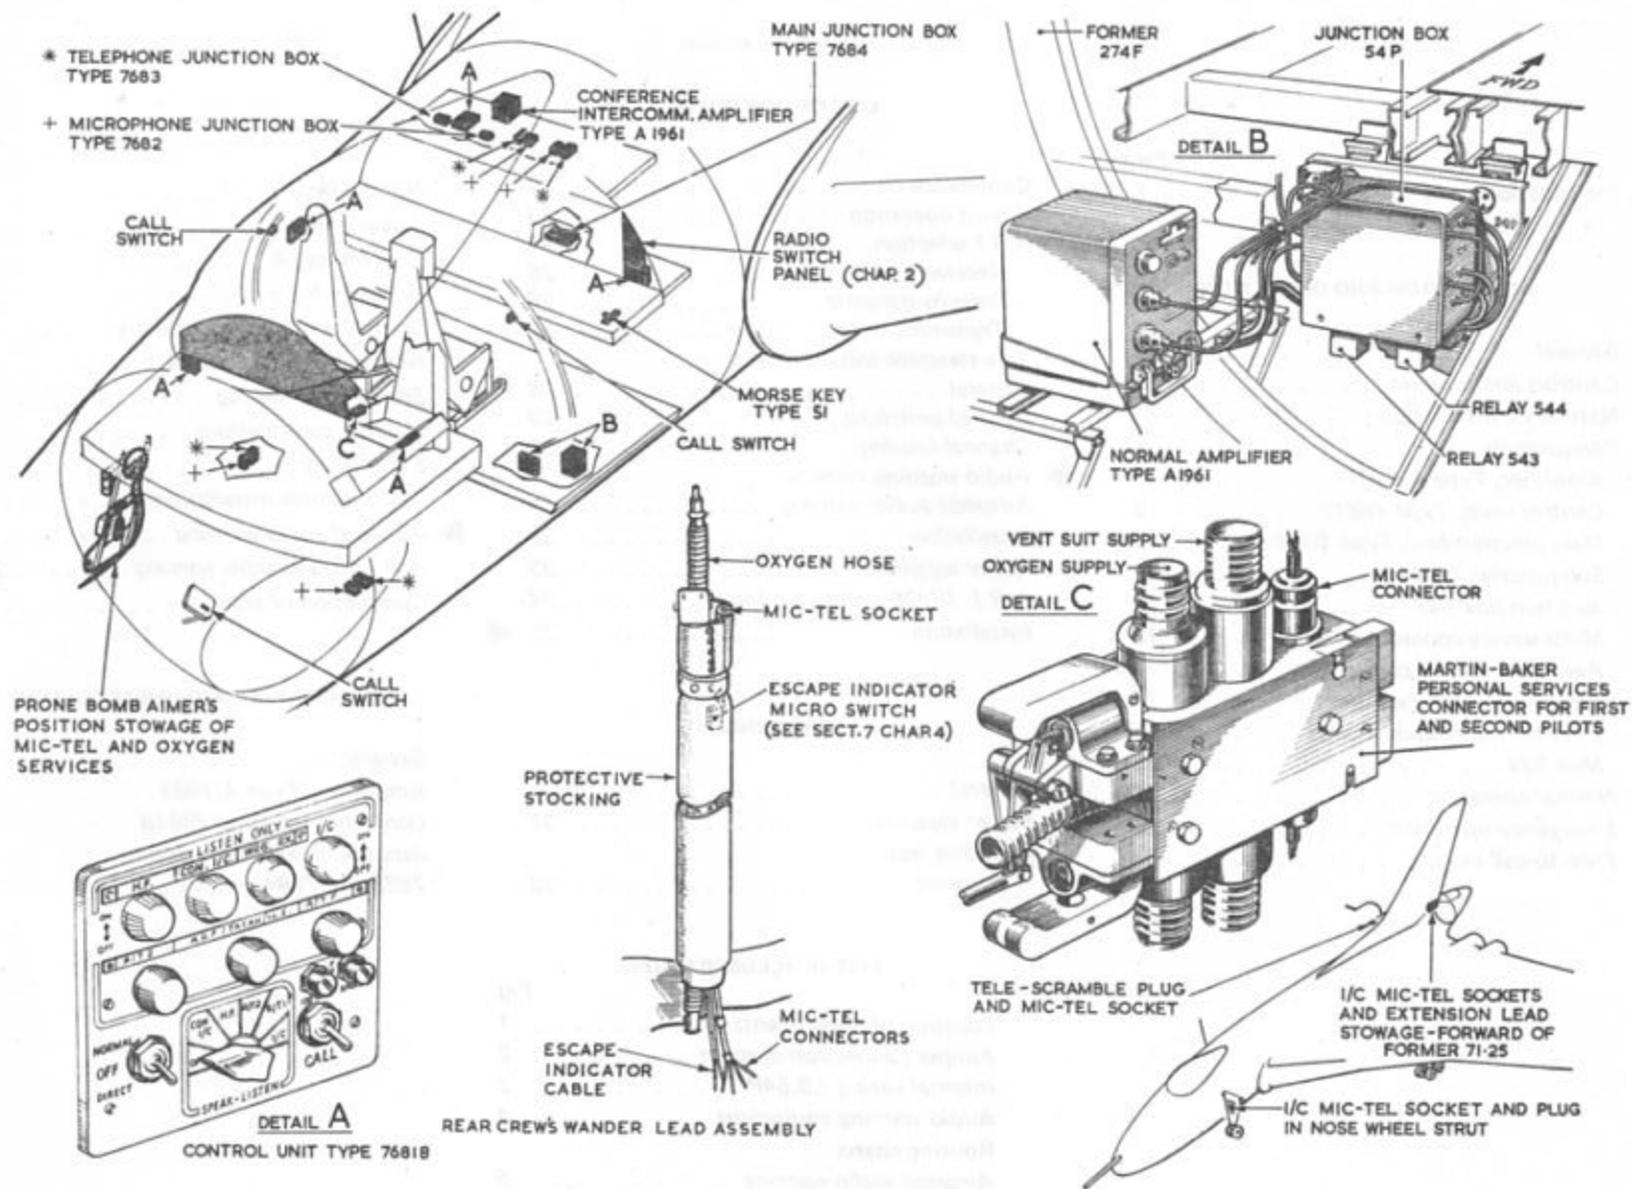

Fig. 1 Location of components A.R.I. 18089
1. This chapter deals with the installation and general functioning of the intercommunication system (A.R.I.18089). A location illustration of the major components is provided in fig.1. Routing charts for the installation will be found at the end of the text. The system is operated from the 28-volt d.c. supplies (Sect.6, Chap.6).
5. The main control switches for the installation are fitted to a small panel located on the main panel at the A.E.O.'s station as shown on fig.1. The switches controlling the intercomm. system are as follows:-
points are fully described in Sect. 3, Chap. 8 and 11 respectively of this publication. The mic-tel interconnections are made via a normal jack plug and socket and mic-tel leads (strapped to the oxygen wander leads as shown in fig. 1) sufficient in length to allow unrestricted access to the port and starboard perisextant stations. The prone bomb aimer's position is equipped with its own oxygen/mic-tel wander lead and stowage position. The port and starboard perisextant stations and prone bomb aimer's station are each provided with a call switch. The rear crew on leaving the aircraft uncouple the oxygen/mic-tel wander leads from their flying helmets and re-connect the oxygen connectors to special stowage brackets situated